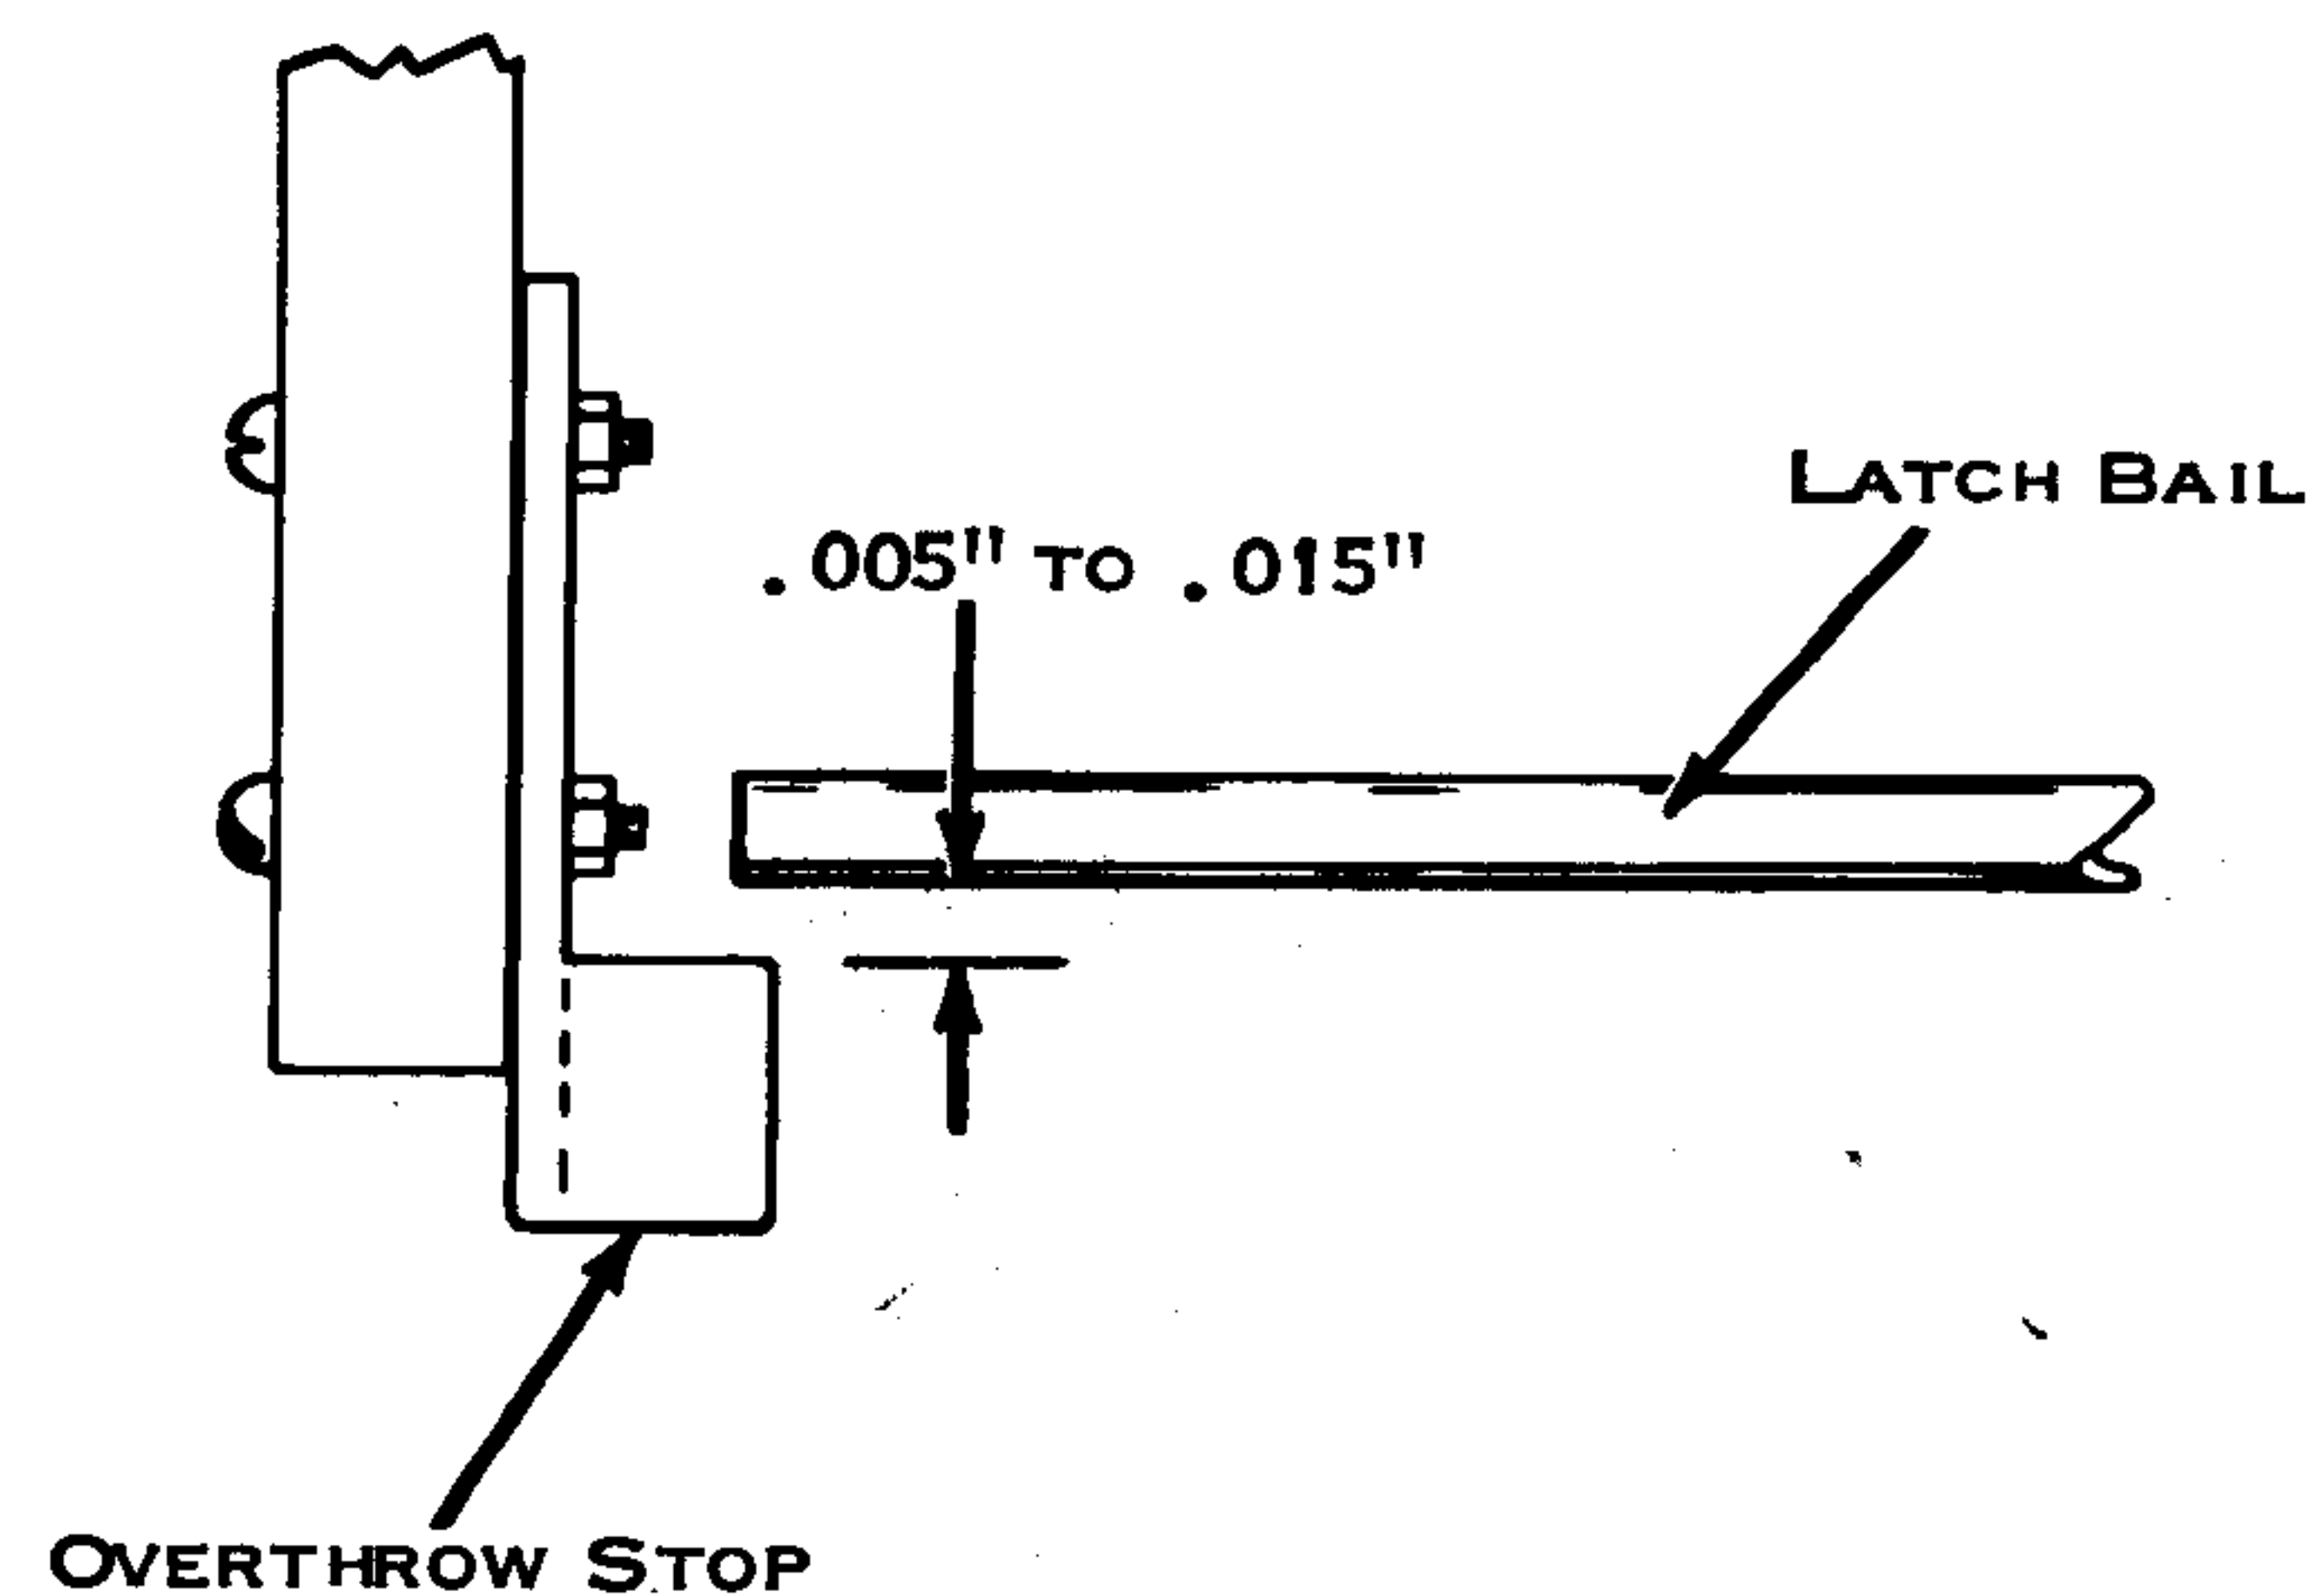

Figure 58. Latch Bail Overthrow Stop
7. Latch Bail Overthrow Stop (Fig. 58) - Position to clear the latch bail by .005" to .015" when the latch bail is on the high point of the cams.